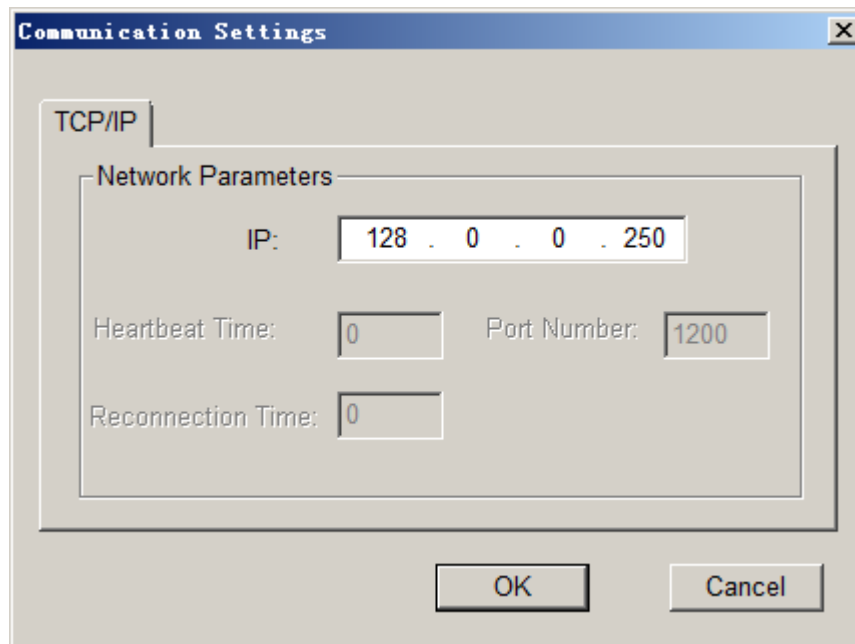

Figure 57 Communication Parameters Settings
Step 2. Enter the IP address of controller in the **Communication Settings** window, such as 128.0.0.250, as shown in Figure 57.